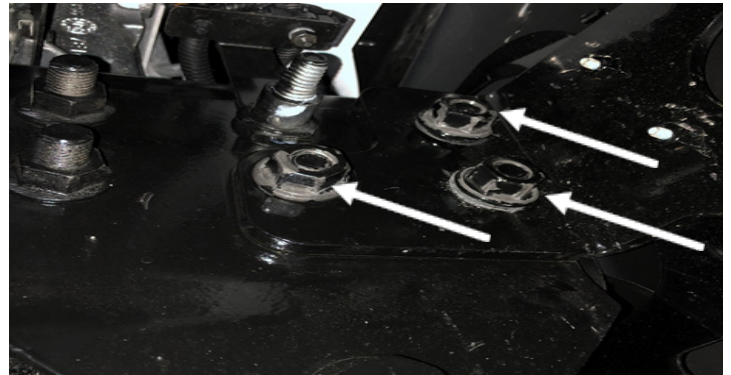

Figure 5
4. Use a 24mm socket wrench to remove the three (3) bolts holding the OEM bumper to the frame. NOTE: the bumper will be loose at this point but should stay on the frame. (Figure 5)